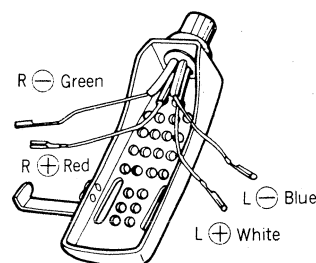

Fig. 6
(1) Attach the cartridge to the head shell with cartridge fixing screws.
(2) The polarities and L, R channel of the lead wire of the head shell are shown in Fig. 6. The connection should be done according to the terminal indication of the cartridge.